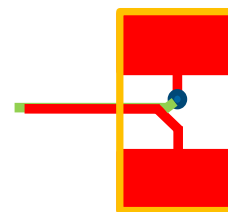

FIGURE 11. RECOMMENDED LAYOUT PATTERN FOR CURRENT SENSE TRACES REGULATOR
13. For the current sensing traces close to the power sense resistor (R_{SENx}), the layout pattern shown in Figure 11 is recommended. Assuming the R_{SENx} is placed in the top layer (red), route one current sense connection from the middle of one R_{SENx} pad in the top layer under the resistor (red trace). For the other current sensing trace, from the middle of the other pad on R_{SENx} in top layer, after a short distance, via down to the second layer and route this trace right under the top layer current sense trace.